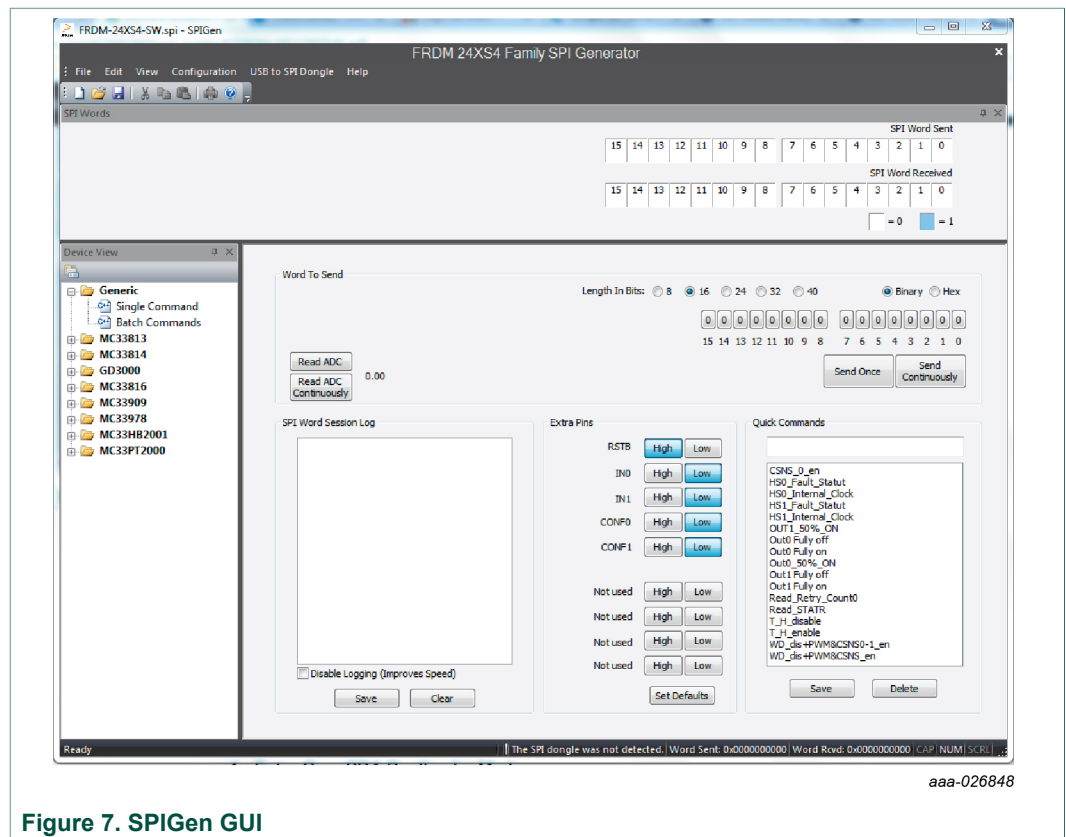

Figure 7. SPIGen GUI
5. The GUI shown in Figure 7 presents some basic SPI commands for quick evaluation of devices from MC24XS4 family, in addition with access to I/Os with extra pins. The commands are sent once (single command) or continuously in a loop (batch command).